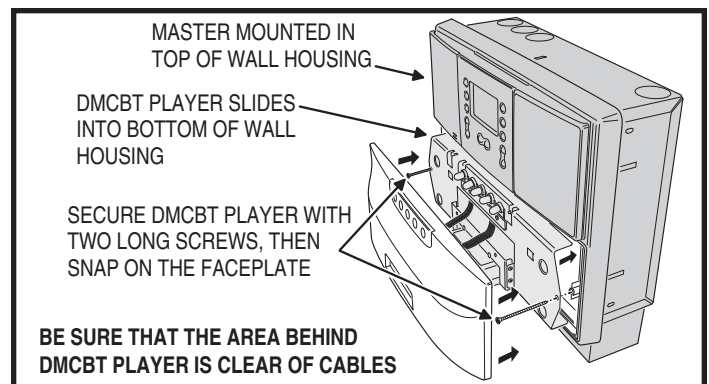

Figure 27. Installing DMCBT Faceplate
13. Install the DMCBT Bluetooth Player faceplate by pressing it onto the player (see Figure 27).